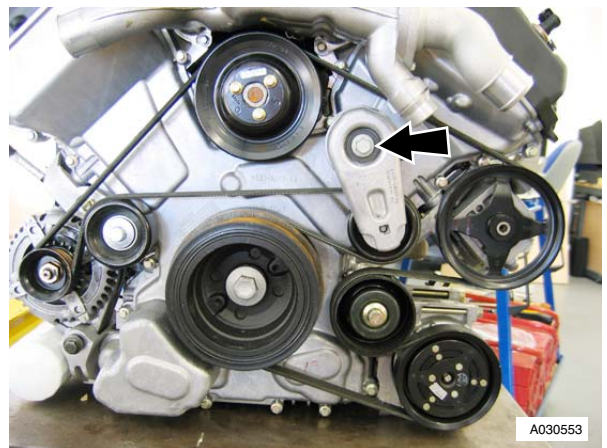

Figure 3
17. Remove the tensioner (refer to Figure 3).